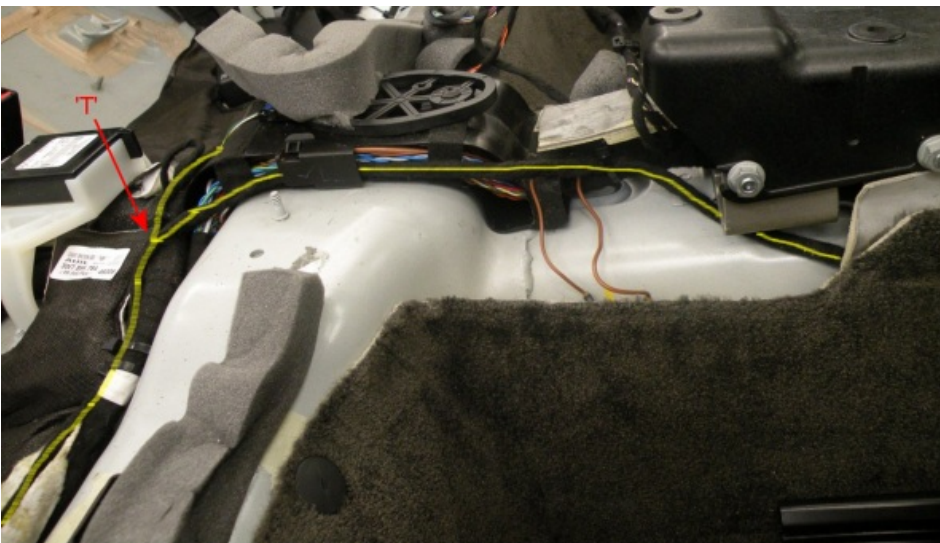

Figure 17
31. Route each branch from the 'T' point to both seat belt reel assembly's follow the original harness route. (see Figure 17)